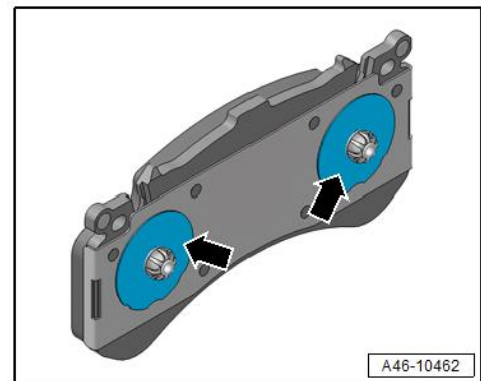

Figure 2. Shims on back of front brake pads.
- Some vehicles may have two shims glued to the back of the front brake pads (Figure 2). **Do not** transfer these shims to the new pads.